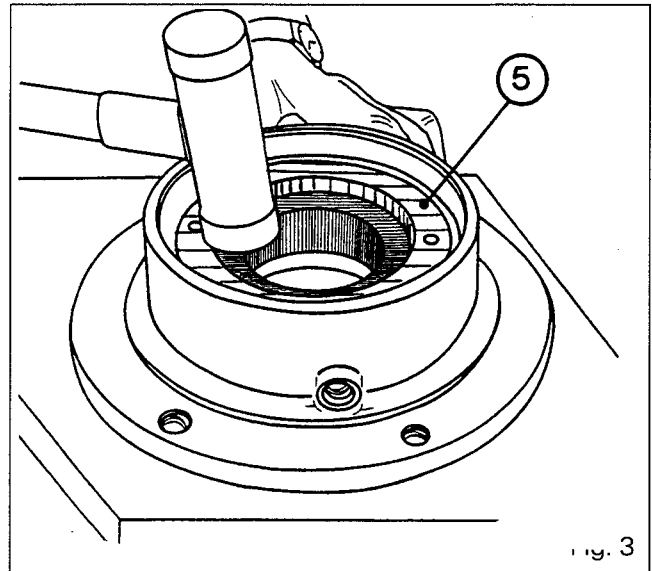

Fig. 3
11. Clean the finger (12), smear it with Loctite 221, then fit and tighten it on the carrier (9).
12. Smear the O-rings (3) and (8) with miscible grease (Amber Technical or equivalent), in order to retain them correctly in the bottom of their respective grooves.
13. Using a plastic mallet, fit the piston (5) back in the carrier (9) (Fig. 3), paying attention to the position of the finger (12).